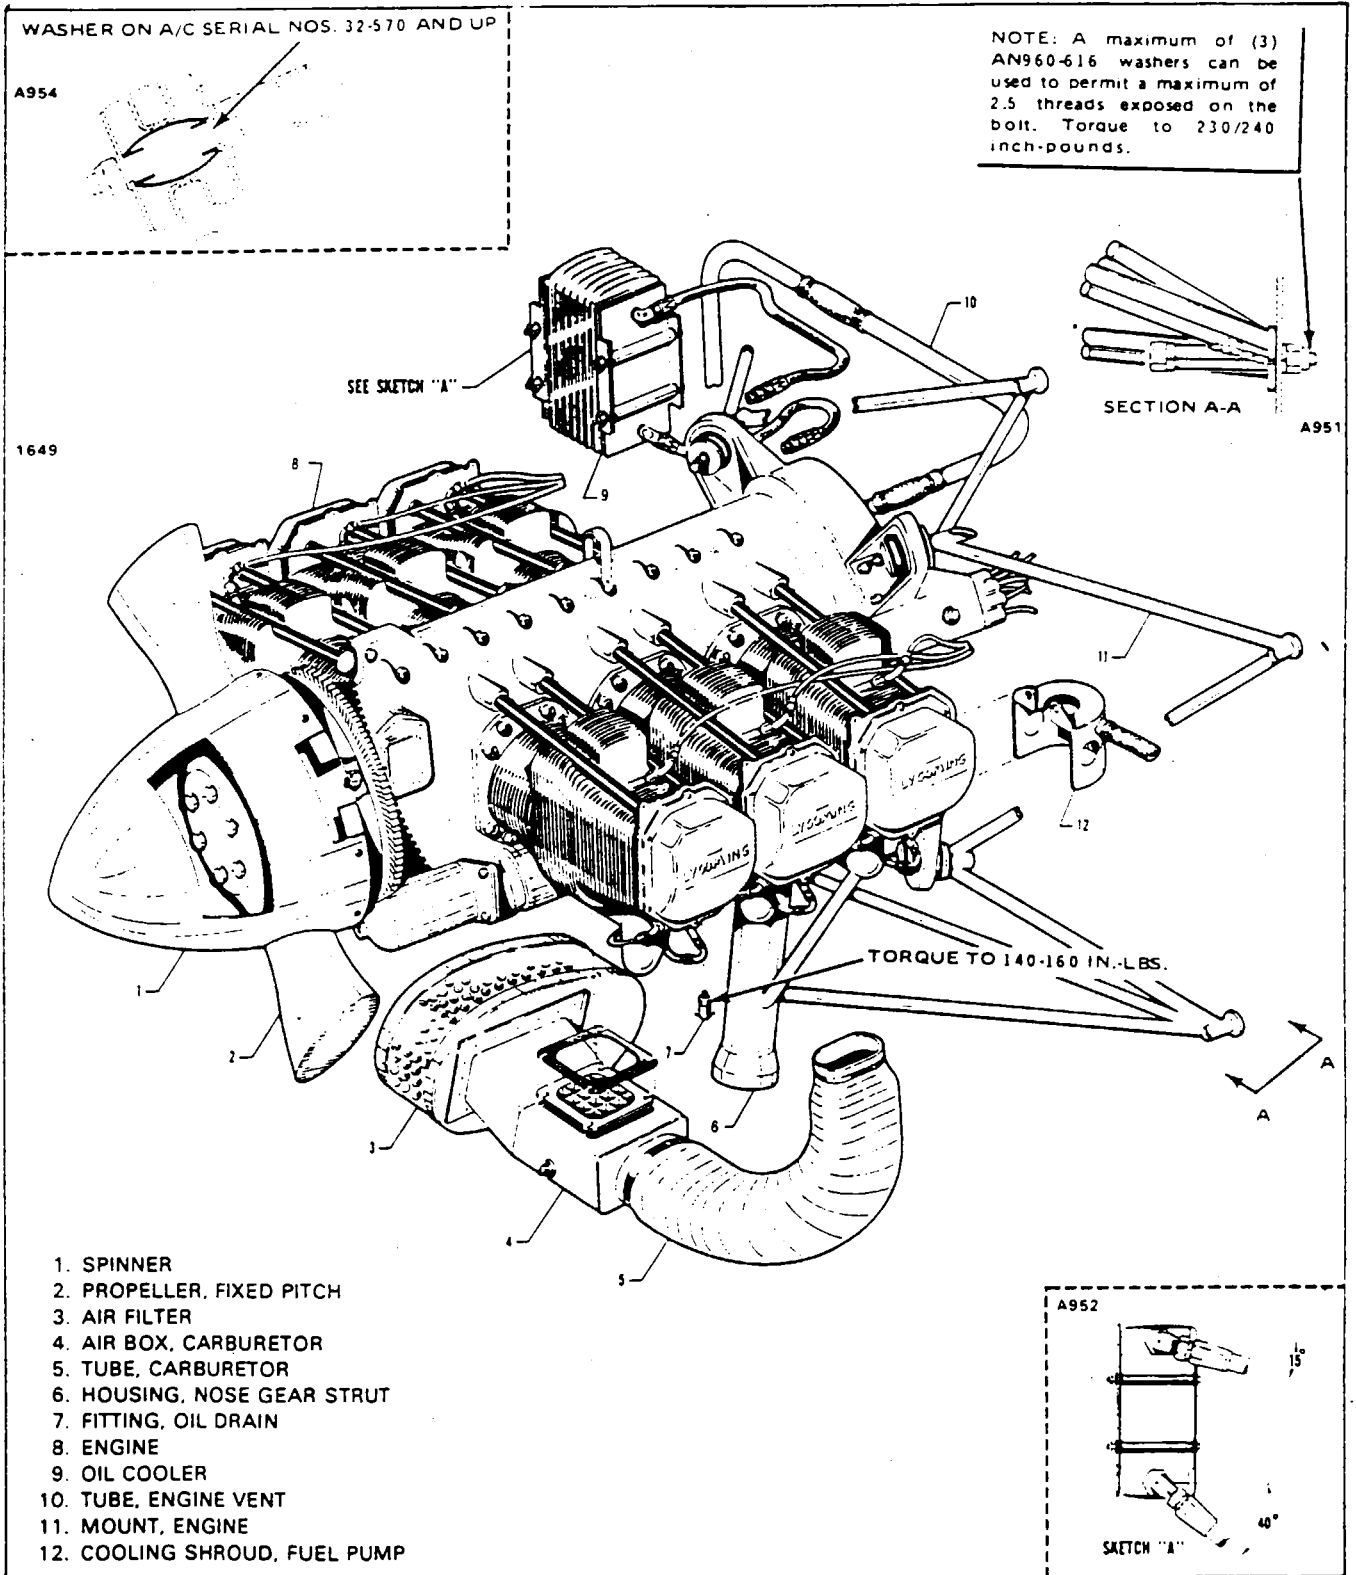

Figure 7-4. Engine Installation
- d. If fitting cannot be positioned correctly as shown in Figure 7-4, using a torque of 10 to 15 foot-pounds, another fitting should be used.